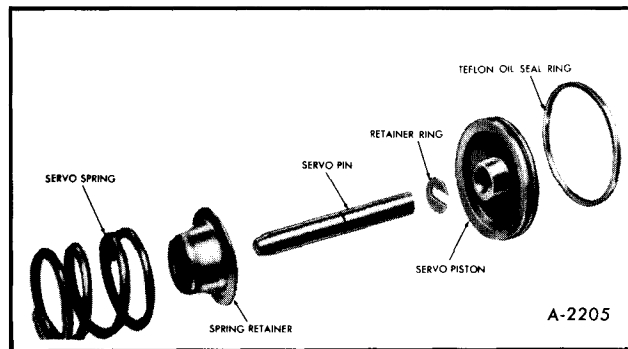

Figure 96—Front Servo Components
**NOTE:** See Figure 96. Do not remove the teflon oil seal ring from the front accumulator piston unless the oil seal ring requires replacement. For service, the oil seal ring will be aluminum.